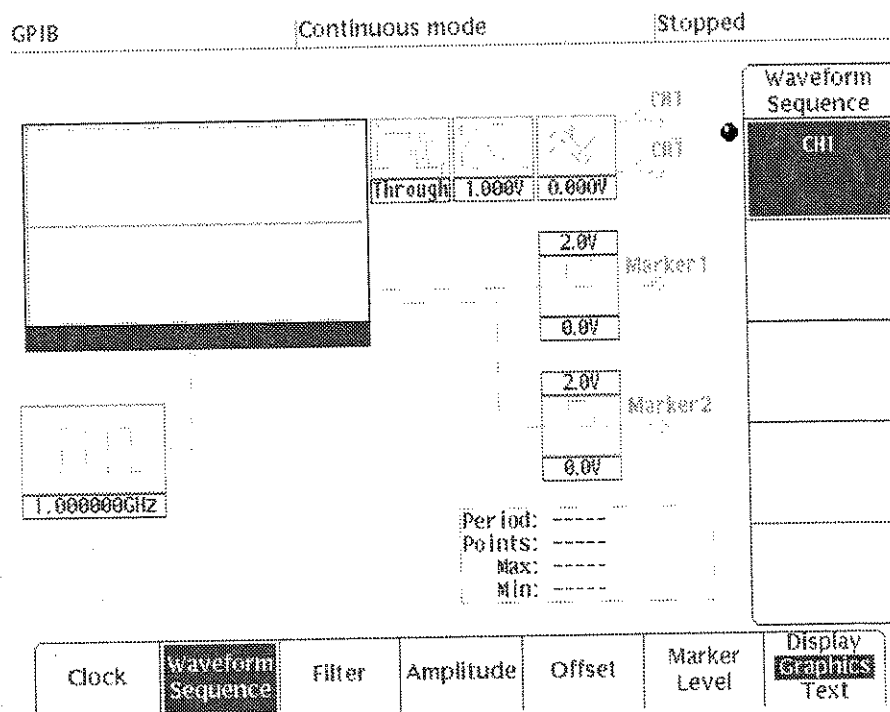

Figure 2-48: SETUP Menu
- Step 1:** Press the **SETUP** button in the **MENU** column. Figure 2-48 shows the **SETUP** menu displayed.